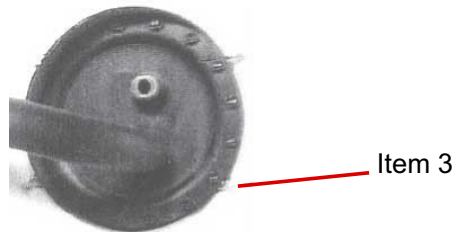

Fig. 2: Attaching the clips
- 3) Attach the clips (item 3, Figure 2) – see also PWD installation instructions.
3) Further assembly steps – see Installation on PWD 750 – Steps 3 to 5 (Figures 2 – 4).